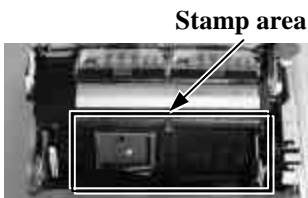

Fig 3 Stamp area
4. Check for dust and paper residuals in the stamp area. Use the attached soft brush to clean this area as indicated in Fig.3.